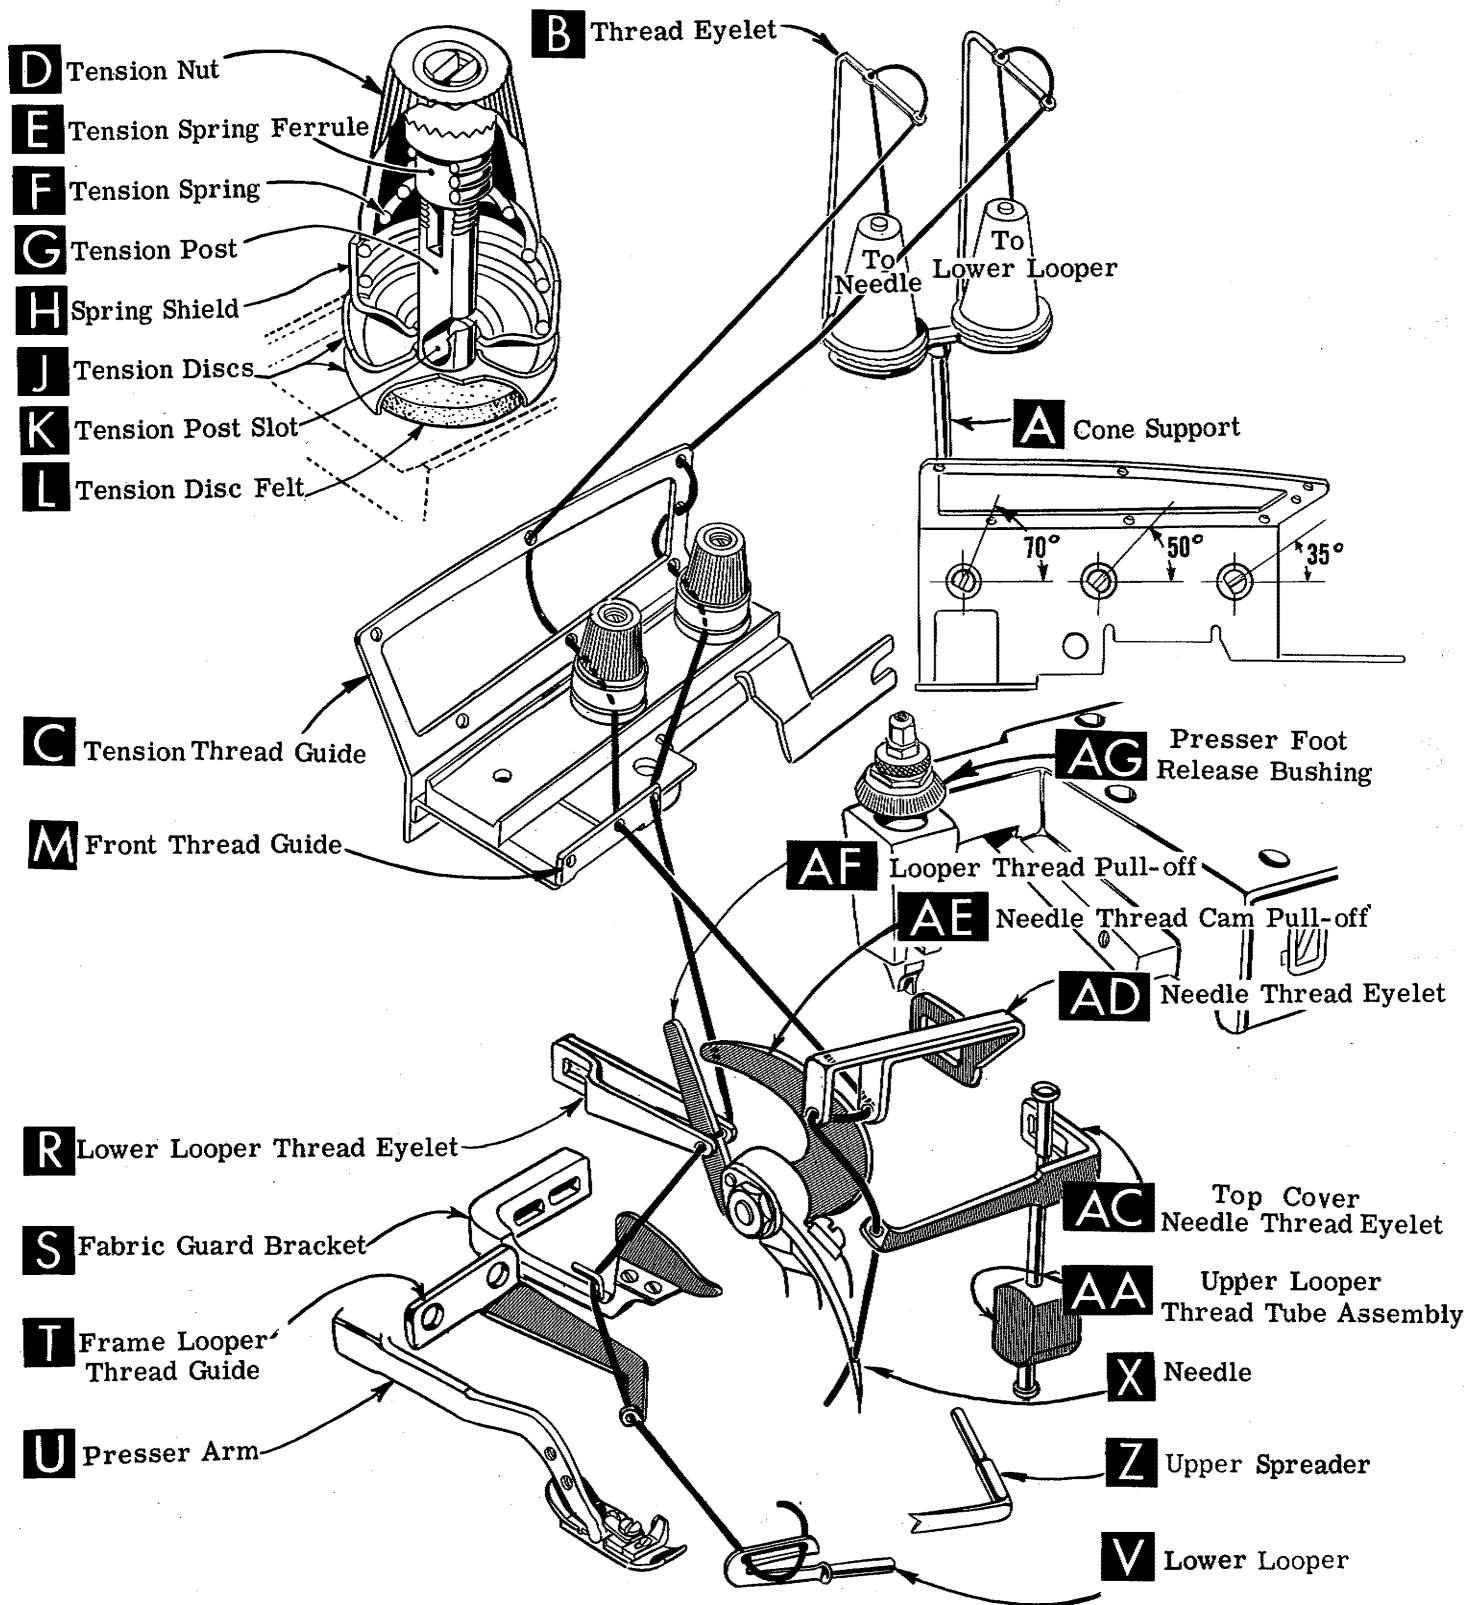
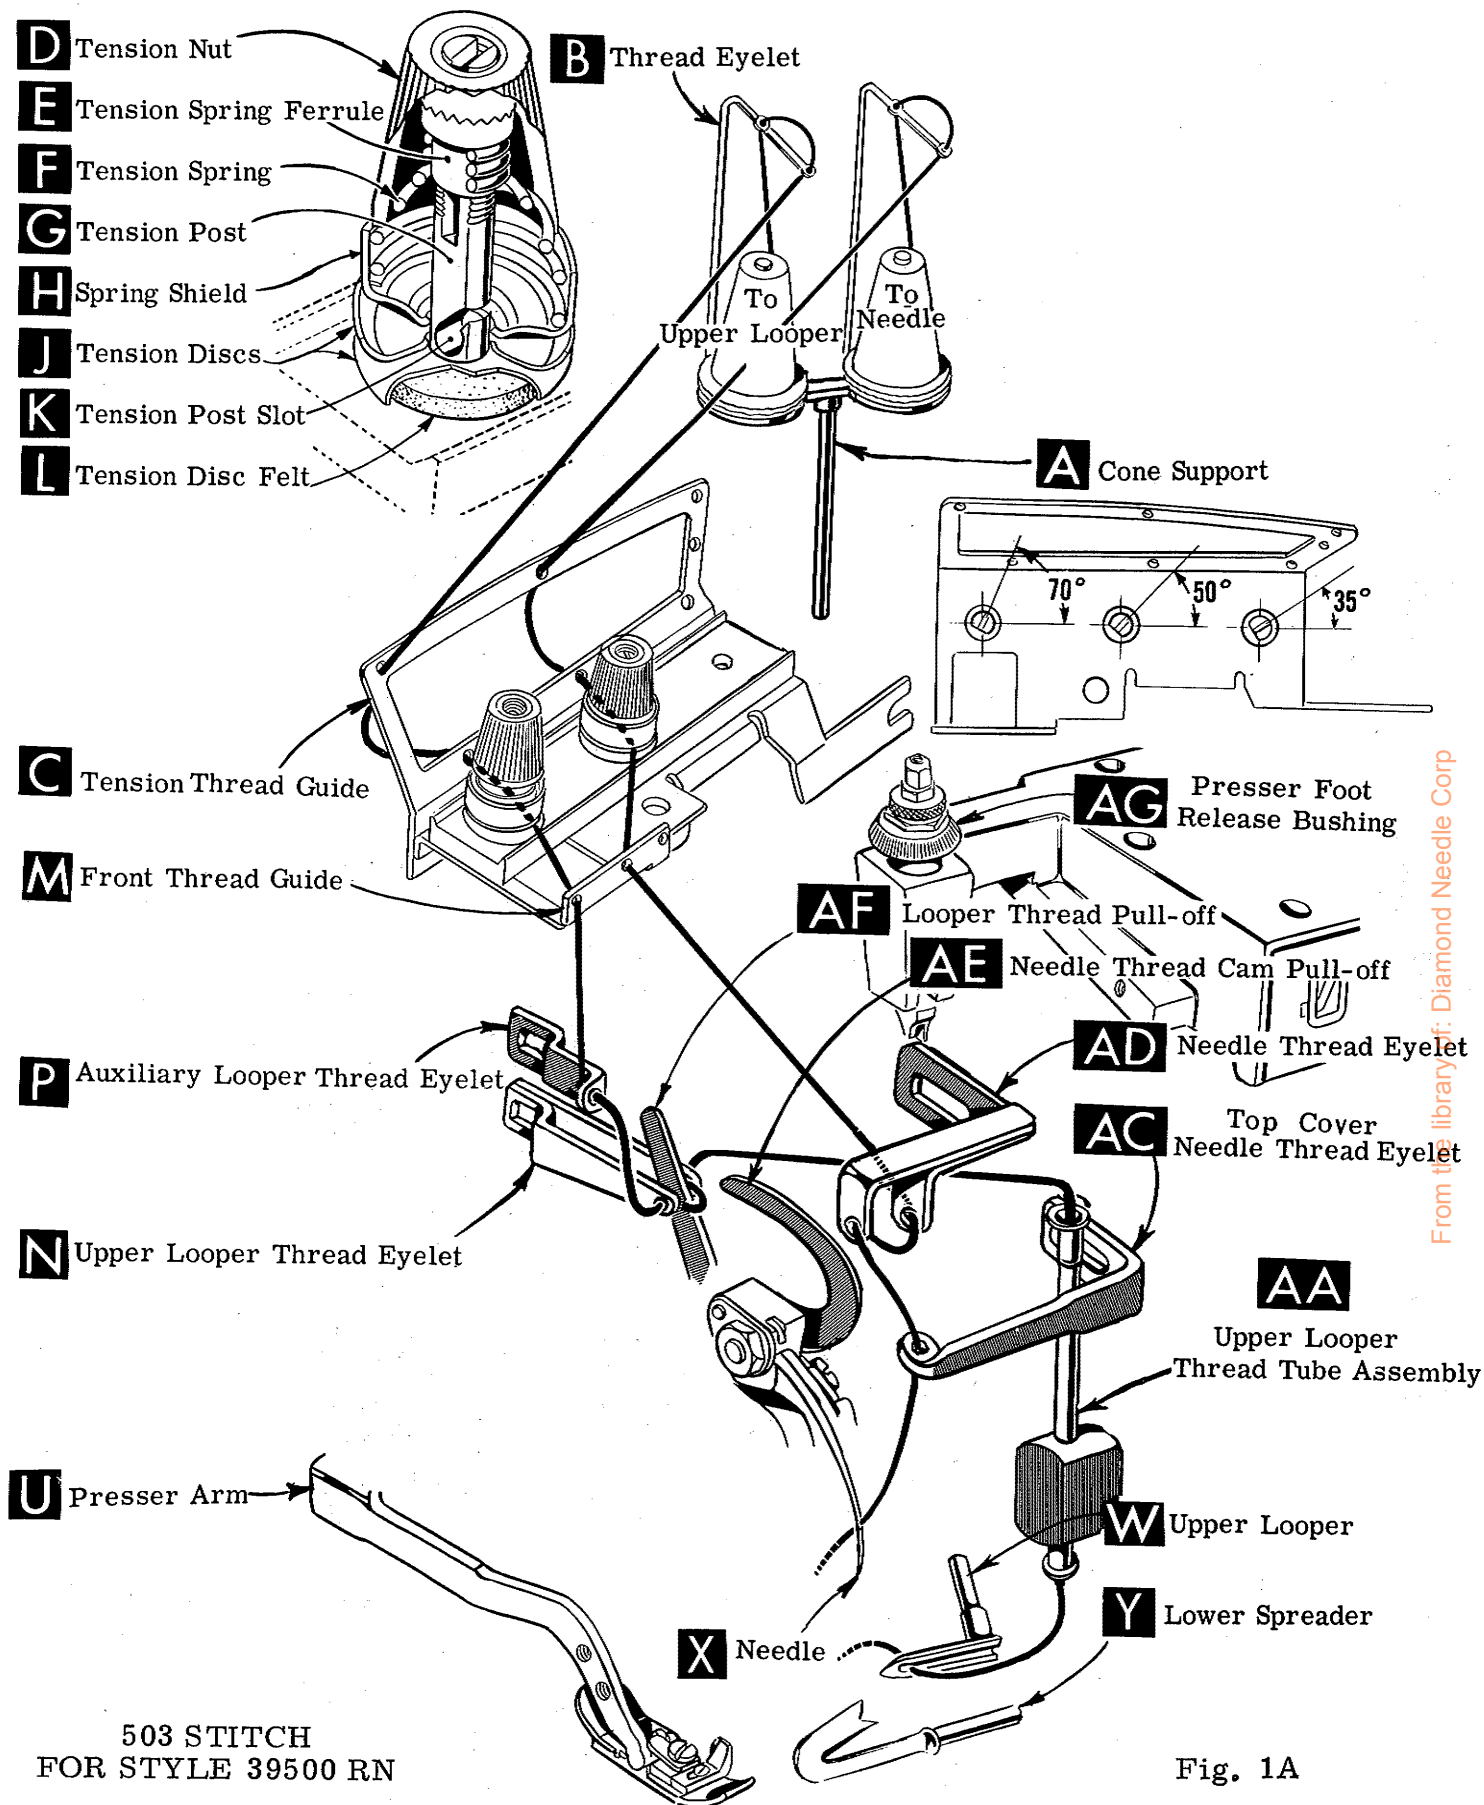
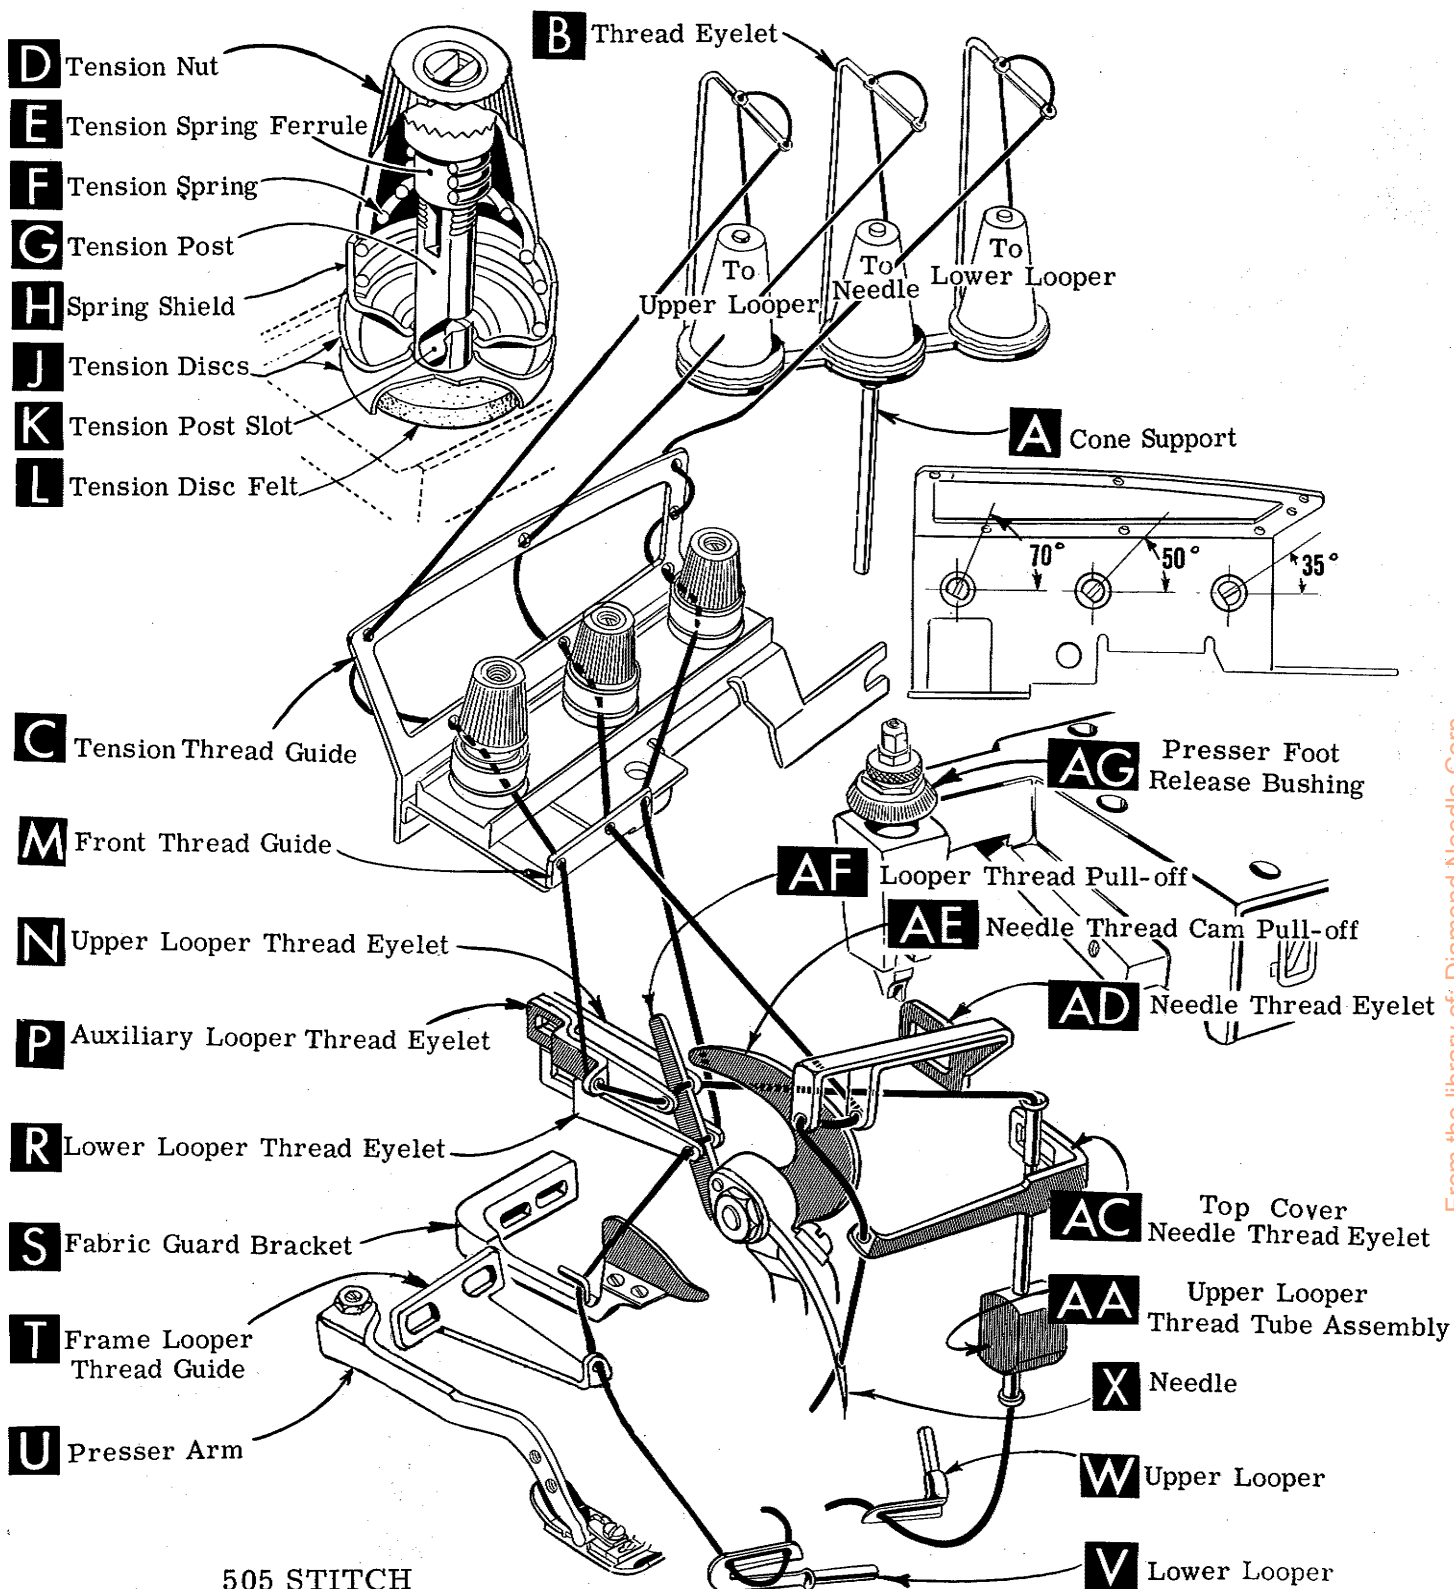

Fig. 1
Fig. 1A
Fig. 1B
Release pressure on presser foot by turning presser foot release bushing (AG, Fig. 1, 1A or 1B) and swing presser arm (U) out of position. Turn handwheel in operating direction until needle is at its lowest point of travel. Using hexagonal socket wrench No. 21388 AU, furnished with machine, loosen needle clamp nut about 1/4 turn. Again turn handwheel until needle is at high position; withdraw needle.
After thread comes from cones on cone support (A, Fig. 1, 1A or 1B) it is brought up through the back hole of thread eyelet (B), then down through the front hole of thread eyelet. Next, the upper looper thread and the needle thread are threaded through the upper hole of tension thread guide (C) from front to back and then through the lower hole from back to front. The lower looper thread is threaded through the upper hole of the tension thread guide (C) from back to front, through the middle hole from front to back and finally through the lower hole from back to front. All threads then continue between the tension discs (J), through tension post slot (K) in tension post (G) and on through front thread guide (M).
Only parts involved in threading are shown in threading diagrams (Fig. 1, 1A and 1B). Parts are placed in their relative positions for clarity. Refer to Fig. 1 for threading of Styles 39500 QG, SD and TC when producing the 503 stitch, Fig. 1A for threading of Style 39500 RN and Fig. 1B for Style 39500 TC when producing the 505 stitch.
Be sure the threads, as they come from the tension thread guide (C), are between tension discs (J) and in tension post slots (K) in tension posts (G). The tension posts should be positioned so the tension post slot will be at the approximate angle for the different threads as indicated in Fig. 1, 1A and 1B.
Double end of thread and lead it through the right eyelet of front thread guide (M, Fig. 1 or 1B). Then lead thread through both eyes of lower looper thread eyelet (R) from right to left. NOTE: Thread must pass in front of looper thread pull-off (AF). Lead thread behind fabric guard (S) and through frame looper thread guide (T). Turn handwheel in operating direction until heel of lower looper (V) is all the way to the left, then thread through both eyes from left to right. Left eye of lower looper can be threaded easily if tweezers are in left hand.
Double end of thread and lead it through the left eyelet of front thread guide (M, Fig. 1A or 1B). Turn handwheel until point of upper looper (W) is all the way to the left. Lead thread through auxiliary looper thread eyelet (P) from back to front, then through both eyes of upper looper thread eyelet (N) from left to right. NOTE: Thread must pass in front of looper thread pull-off (AF).
Double end of needle thread and lead it through middle eyelet of front thread guide (M, Fig. 1, 1A or 1B). Then turn handwheel in operating direction until needle (X) is at its highest position. Insert needle thread from right to left, through both eyes of needle thread eyelet (AD), under neck of top cover casting; then down through hole in top cover needle thread eyelet (AC). Thread needle from front.
The amount of tension on the needle and looper threads is regulated by knurled tension nuts (D, Fig. 1, 1A or 1B). Tension on threads should be only enough to secure proper stitch formation.
Be sure machine is threaded according to the threading diagram for your machine (Fig. 1, 1A or 1B).
With thread tensions light, set the lower looper thread eyelet (R, Fig. 1 and 1B) and the upper looper thread eyelet (N, Fig. 1A and 1B) approximately horizontal and in the middle of their front to back locations. Operate machine slowly, with presser foot in place; make sure chain forms and moves off stitch tongue freely.
While sewing on material, check needle thread control as follows: Usually all needle thread is drawn on needle down stroke. At top of needle stroke, thread should be just tight enough to feed chain off stitch tongue. Stitch tends to pull down slightly if excessive thread is pulled on the up stroke. With needle at bottom of stroke, position needle thread eyelet (AD, Fig. 1 or 1A) so that needle thread cam pull-off (AE) just contacts needle thread. To increase thread drawn on downstroke, position needle thread eyelet (AD, Fig. 1 or 1A) farther to the rear.
With material under presser foot, set lower looper thread eyelet (R, Fig. 1) back and down far enough so thread is a little slack when spreader reaches its extreme left position. Lower looper thread eyelet (R) should be about horizontal.
With material under presser foot, set upper looper thread eyelet (N, Fig. 1A) back and down far enough so thread is a little slack when lower spreader reaches its extreme left position. Looper thread eyelet (N) should be about horizontal.
While sewing on material, check needle thread control as follows: About 60% of needle thread required for the stitch should be drawn on needle downstroke. To increase thread drawn on the downstroke, position needle thread eyelet (AD, Fig. 1B) farther to the rear.